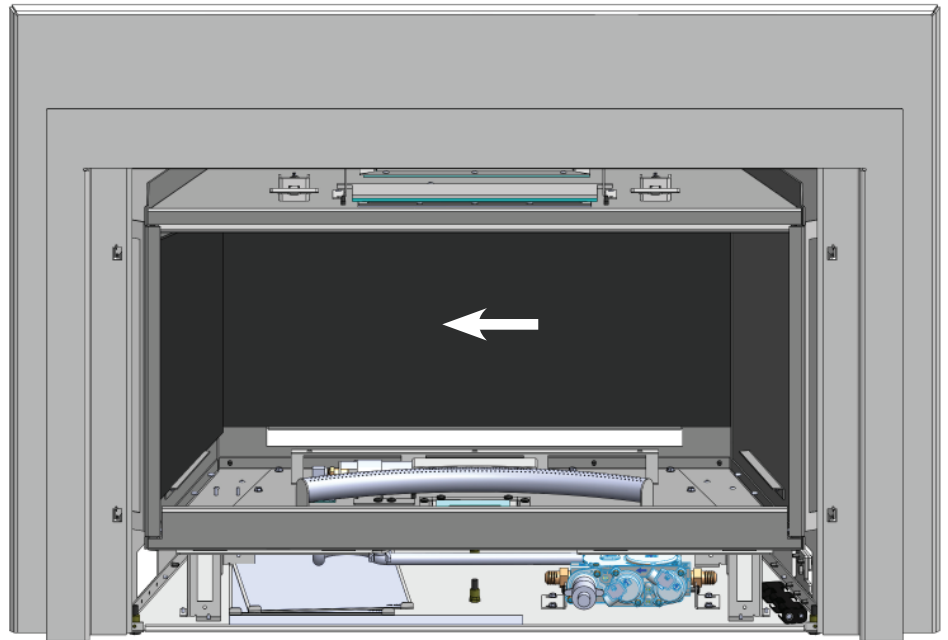

Fig.3
5. Install the back glass panel in behind the left glass panel. (Fig.3) **NOTE: THE SIDE WITH THE LABEL SHOULD BE FACING THE FIREBOX, REMOVE LABEL BEFORE FIRING.**